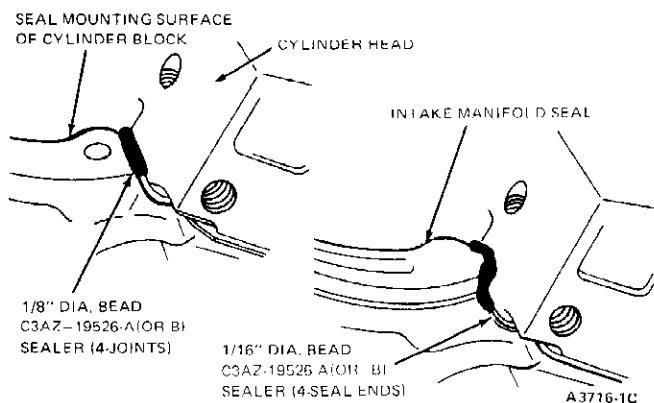

FIG. 14 Typical RTV Sealer Installation—Intake Manifold
1. Clean the mating surfaces of the intake manifold, cylinder heads and cylinder block. Use a solvent such as lacquer thinner, chlorothane or tri-chlor-ethylene. Apply a 1/8 inch bead of silicone rubber sealer at the points shown in Fig. 14. **Caution: Do not apply sealer to waffle section of end seals as the sealer will rupture the seal material.**
3. Apply a 1/16 inch bead of the above sealer to the outer end of each intake manifold seal for the full width of the seal (4 places). See Fig. 14. **Caution:** Do not apply sealer to waffle section of end seals as the sealer will rupture the seal material. **NOTE:** This sealer sets up in 15 minutes, so it is important that assembly be completed promptly. Do not drip any sealer into the engine valley. **Position the intake manifold gasket onto the block and cylinder heads with the alignment notches under the dowels on the cylinder heads. Be sure the holes in the gasket are aligned with the holes in the cylinder head.**